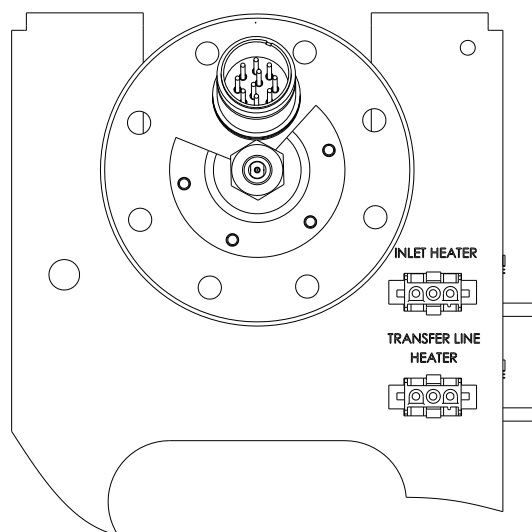

Figure 7: Ionizer Flange
6. Unplug the heater, which is bolted to the ionizer flange and plugged into a plastic connector directly behind the ionizer, Figure 7.